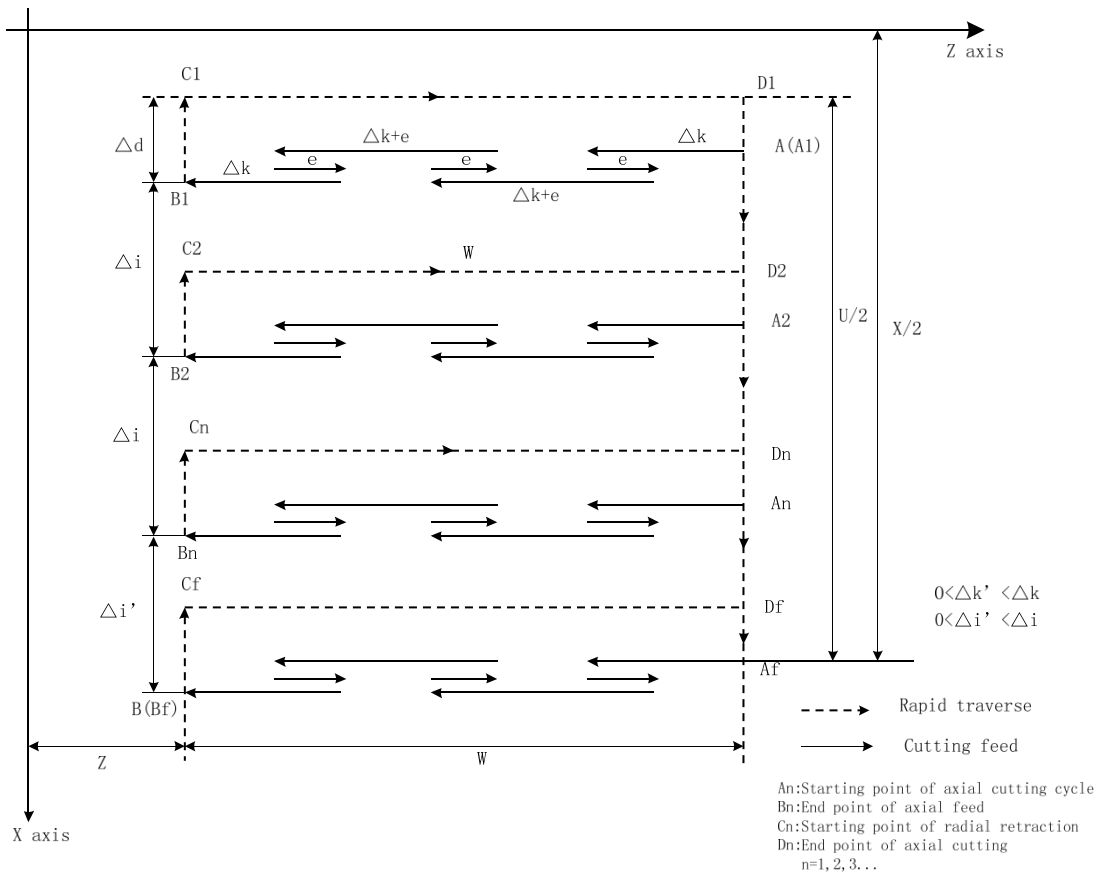

Fig. 3-34 G74 path
**P( $\Delta i$ )** : radial(X) cutting for each axial cutting cycle , range:  $0 < \Delta i \leq 9999999 \times$  least input increment (diameter value), without sign symbol.
**Q( $\Delta k$ )** : radial(Z) cutting for each axial cutting cycle, range:  $0 < \Delta k \leq 9999999 \times$  least input increment (diameter value), without sign symbol.
**R( $\Delta d$ )** : radial (X) tool retraction after cutting to end point of axial cutting, range:  $0 \sim 99999.999 \times$  least input increment (diameter value) without sign symbol. The radial (X) tool retraction clearance is 0 when the system defaults the axial cutting end point. The system defaults the tool retraction is executed in positive direction when X/U and P( $\Delta i$ ) are omitted.
**Execution process:** (Fig. 3-34)
- ① Axial (Z) cutting feed  $\Delta k$  from the starting point of axial cutting cycle, feed in Z negative direction when the coordinates of cutting end point is less than that of starting point in Z direction, otherwise, feed in Z positive direction;
- ② Axial (Z) rapid tool retraction e and its direction is opposite to the feed direction of ①;
- ③ X executes the cutting feed ( $\Delta k + e$ ) again, the end point of cutting feed is still in it between starting point  $A_n$  of axial cutting cycle and end point of axial tool infeed, Z executes the cutting feed ( $\Delta k + e$ ) again and execute ②; after Z executing the cutting feed ( $\Delta k + e$ ) again, the end point of cutting feed is on  $B_n$  or is not on it between  $A_n$  and
- $B_n$  cutting feed to  $B_n$  in Z direction and then execute ④;
- ④ Radial(X) rapid tool retraction  $\Delta d$ (radius value) to  $C_n$ , when X coordinate of  $B_f$  (cutting end point) is less than that of A (starting point), retract tool in X positive, otherwise, retract tool in X negative direction;
- ⑤ Axial(Z axial) rapid retract tool to  $D_n$ , No. n axial cutting cycle is completed. If the current axial cutting cycle is not the last one, execute ⑥ ; if it is the previous one before the last axial cutting cycle, execute ⑦;
- ⑥ Radial(X axial)rapid tool infeed, and it direction is opposite to ④ retract tool. If the end point of tool infeed is still on it between A and  $A_f$  (starting point of last axial cutting cycle) after X executes the tool infeed ( $\Delta d + \Delta i$ ) (radius value), i.e.  $D_n \rightarrow A_{n+1}$  and then execute ① (start the next axial cutting cycle); if X end point of tool infeed is not on it between  $D_n$  and  $A_f$  after tool infeed ( $\Delta d + \Delta i$ ) (radius value), rapidly traverse to  $A_f$  and execute ① to start the first axial cutting cycle;
- ⑦ X rapidly traverse to return to A, and G74 is completed.